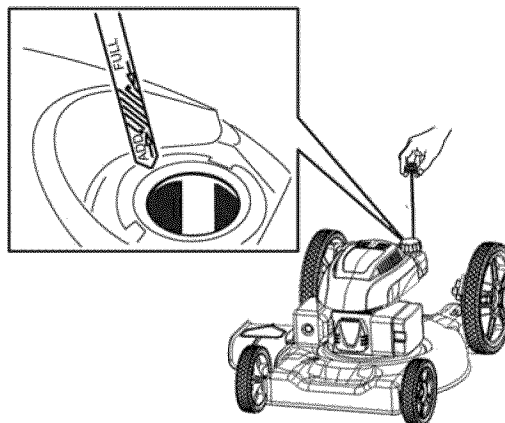

Figure 3
1. Remove the dipstick (Figure 3)